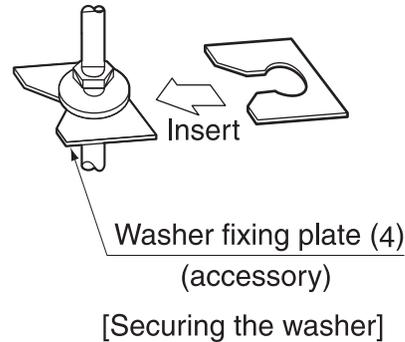

Fig. 11
The washer fixing plate (4) will prevent the washer from falling. (Refer to Fig.11)